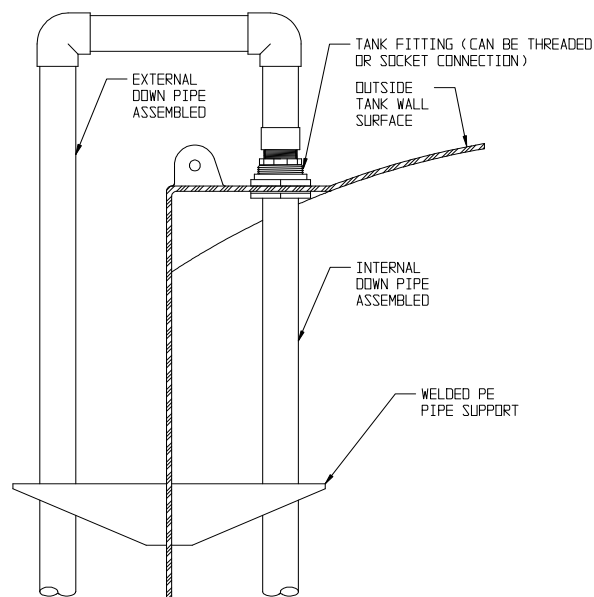

Figure 7.4
7.4.2 Assemble the piping loosely using Figure 7.4, the guidelines detailed below, and the customer approved tank drawing to ensure all parts are present and cut to meet the customer's requirements. The piping should be inserted into the holes in the welded support structures prior to installing the fitting in the tank. As soon as all parts have been checked, assemble the parts with solvent weld cement and/or threaded connections as shown in Figure 7.4. Seal all threaded pipe connections with Teflon pipe sealant and connect solvent weld sockets with the correct type of solvent cement.